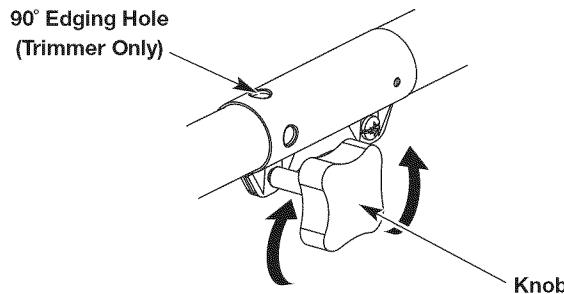
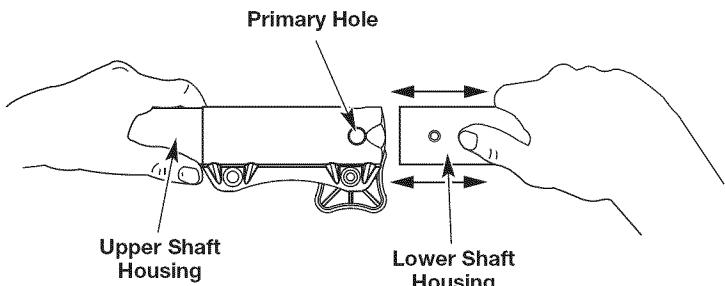

Fig. 2
Fig. 4
1. Turn the knob counterclockwise to loosen (Fig. 2).
2. While firmly holding the attachment, push it straight into the coupler until the release button snaps firmly into the primary hole (Fig. 4).
3. Turn the knob clockwise to tighten (Fig. 2).
CAUTION: Before operating the unit, make sure the release button is fully snapped into the primary hole (Fig. 4) and the knob (Fig. 2) is securely tightened.
For decorative edging with a string trimmer attachment, lock the release button into the 90° edging hole (Fig. 2).
3. While firmly holding the upper shaft housing, pull the attachment straight out of the coupler (Fig. 4).